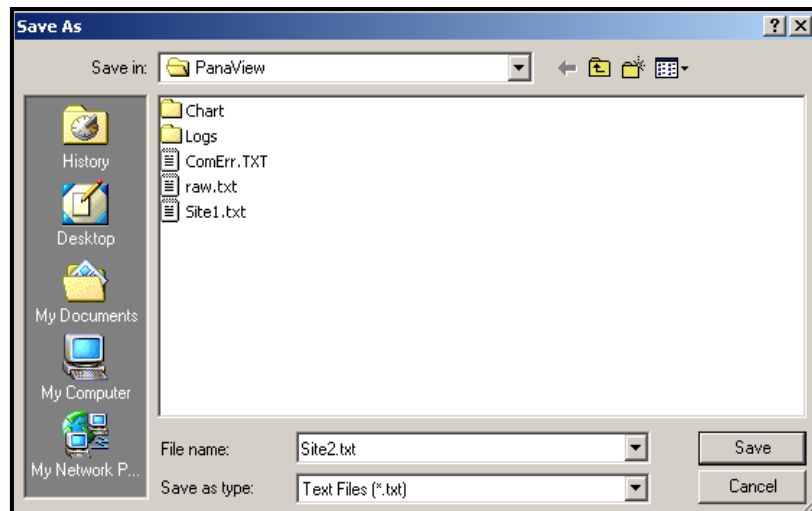

Figure 29: *Save As* Window
To save the raw signal, click *Save*. A window opens similar to Figure 29 below. Enter the desired name, and click *Save* to save the signal as a text file.
2. Click *Save Site to PC*. A window opens similar to Figure 29 on page 98.